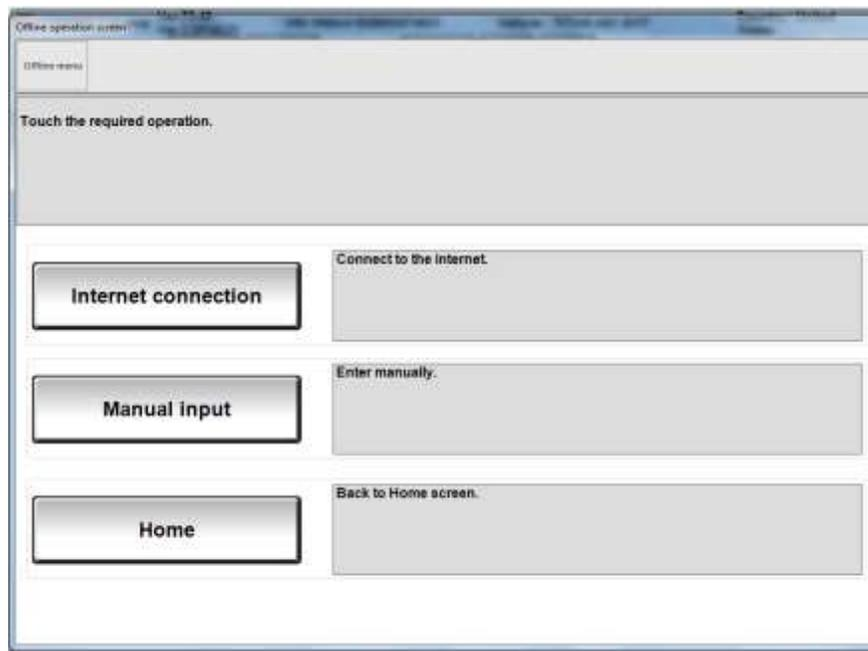

Figure 18
- If the CONSULT PC is not connected to the Internet, the screen in Figure 18 will display.